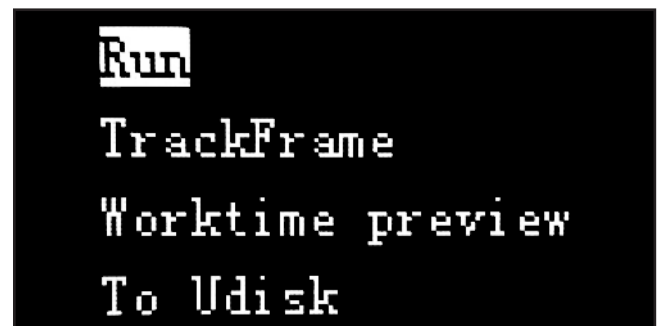

Figure 52. Job setup screen.
12. Select file, then press Enter. Job setup screen will open (see **Figure 52**).